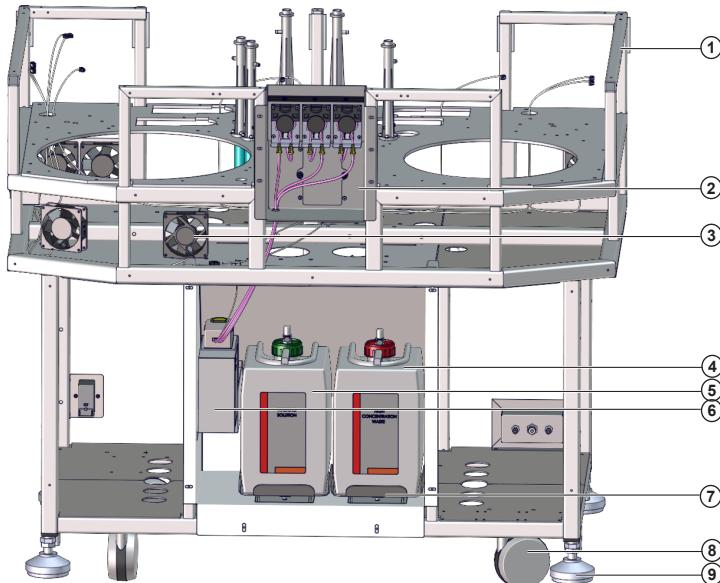

Figure 3.18 **Front view of structure**
The ISE module (2) is located in the centre, at the top, and the ISE module reagent kit (6) is located in the bottom central part. See Figure 3.18.
References of figures 3.18 and 3.19